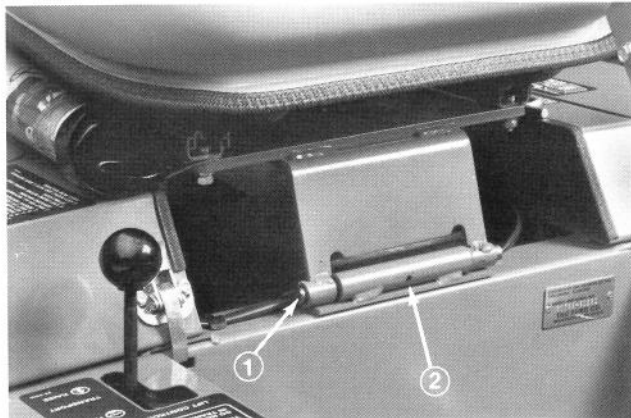

Figure 9
8. Mount seat and seat support to unit with pivot shaft and roll pin (Fig. 9).